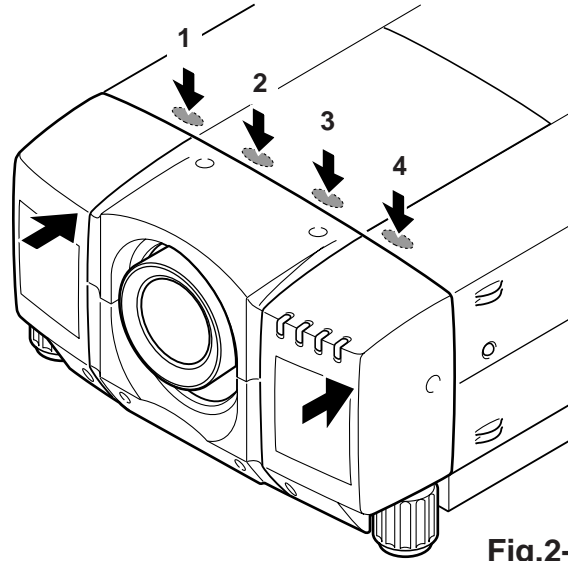

Fig.2-3
- 2) See **Fig.2-3**. Slightly push the cabinet front backward and pushing arrow points of the cabinet top until each hooks are fitted.